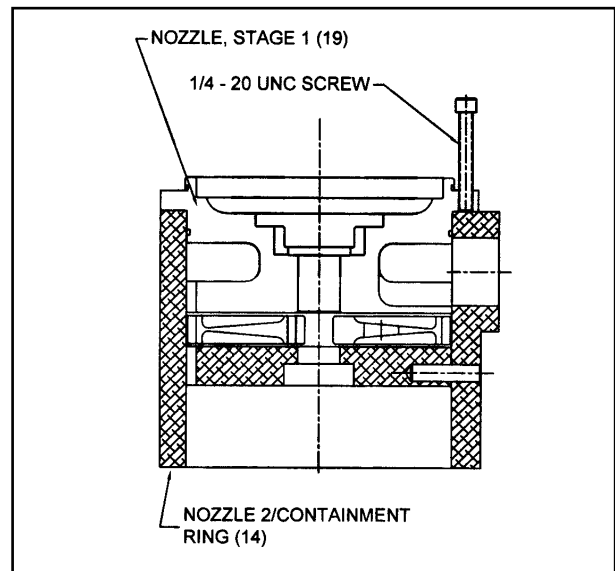

Figure 9. Nozzle 2 Removal
Install three screws (35) removed from the gearbox housing into the jack holes on the turbine housing (19) as shown in figure 9.